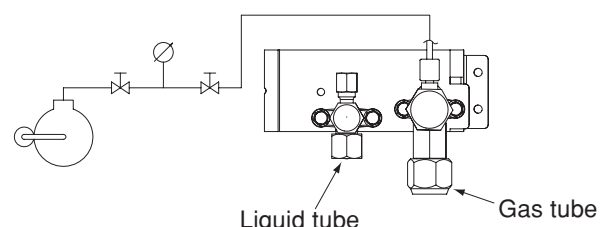

Fig. 11-2
- (6) Both the gas and liquid tube service valves are open. If not, open them now. (Fig. 11-2)
- (7) Request that the customer be present for the trial run.